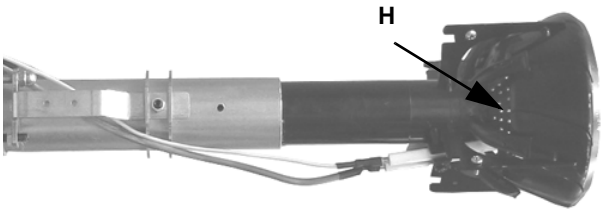

Fig. 64
- 4 Disconnect the connector **CR** (Fig. 64).
To remove the head, the operator must pull it towards himself. Once the combustion head is removed, check that the air and gas holes are not obstructed (Fig. 64 - H). Clean the combustion head by a compressed air blow or, in case of scale, scrape it off by a scratchbrush.